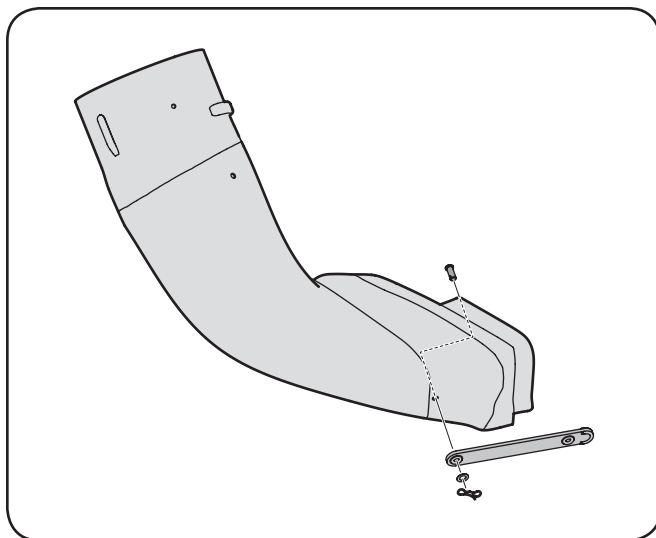

Figure 4-17
9. Install the rubber chute strap (723-04008A) on the chute elbow using a clevis pin (711-05063), flat washer (736-0204) and Bow-tie cotter pin (714-04040) found in hardware pack 689-00091. See Fig. 4-17.